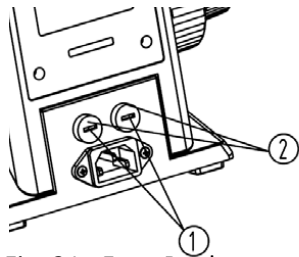

Fig. 21 Fuse Replacement
- Use a screw driver to remove the fuse cap ① from the fuse base ② (Fig.21) ;